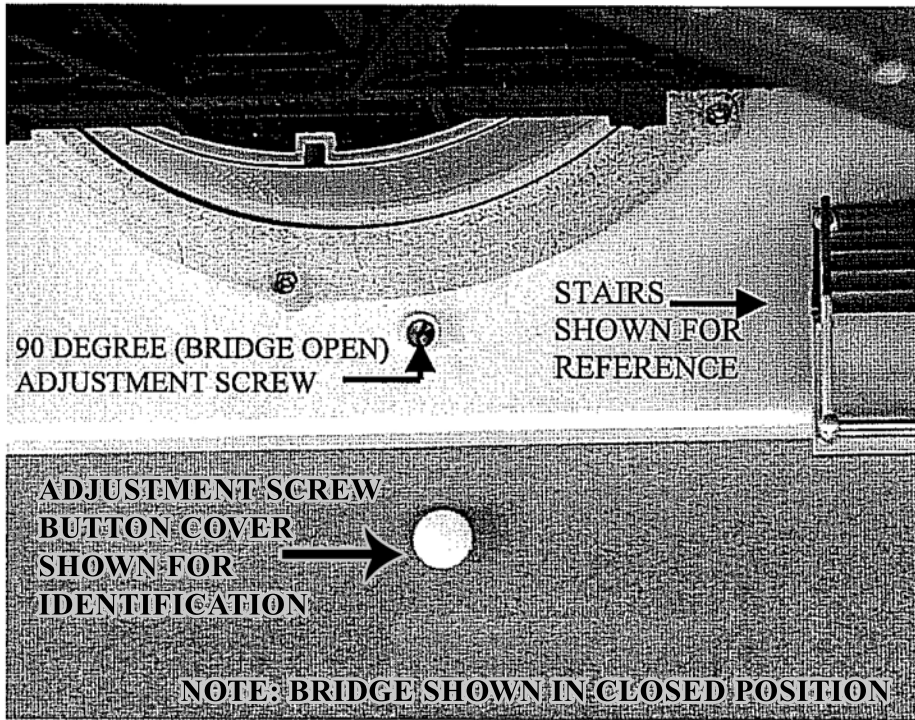

FIG. 1 90 DEGREE (BRIDGE OPEN) ADJUSTMENT SCREW LOCATION
Your Swing Bridge is equipped with two adjustment screws that control the operation of the motor at the start and stop of each cycle. The adjustment screws are concealed by “button” like covers at the front and rear of the accessory. (See Fig. 1 & 2 for adjustment screw locations.) While this accessory is factory-adjusted for proper operation, you may eventually find that the motor continues to run after the bridge is seated or that the motor turns off as the bridge is just beginning to start another cycle.
1. Rotate the 90-degree adjustment screw (see fig. 1) **counter-clockwise** (a small fraction of a turn).